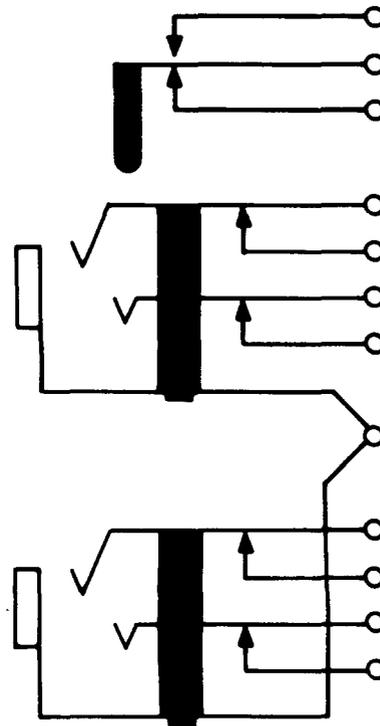

Fig. 4—631A Jack
2.04 631A: The 631A is a single-mounted, twin, reduced length jack (Fig. 4) having a single frame and is suitable to be used in equipment where space restrictions are a problem. This jack is designed to mate with the 310- and similar-type plugs. This jack is used in channel units.